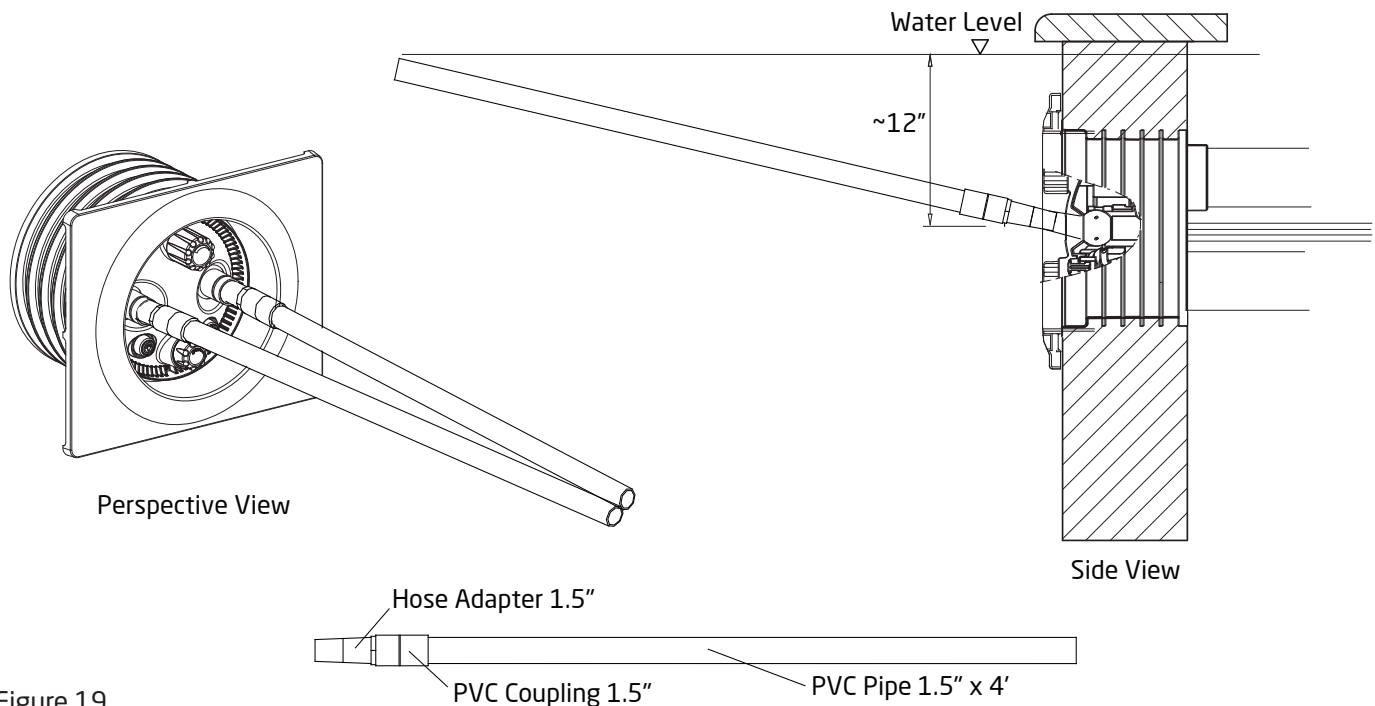

Figure 19
4. Bring the ends of the adjustment tools together so they are touching in between the jet housings. Then raise the tools together so the ends touch the water surface. (See Figure 19)